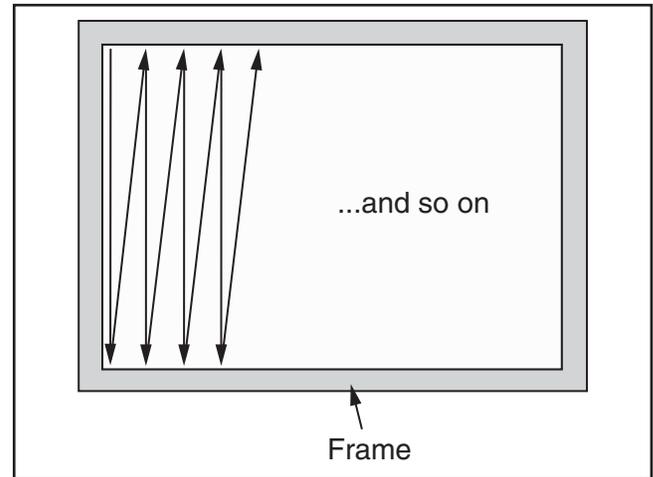

Figure 11. Example of basic back-and-forth tracking pattern.
9. Move the workpiece back and forth through the wheels in an overlapping pattern (see example in **Figure 11**).